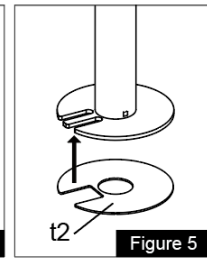

Figure 5
2. Attach Soft Pad (**t2**) to the Grommet Base Plate (**m**), see *Figure 5*.